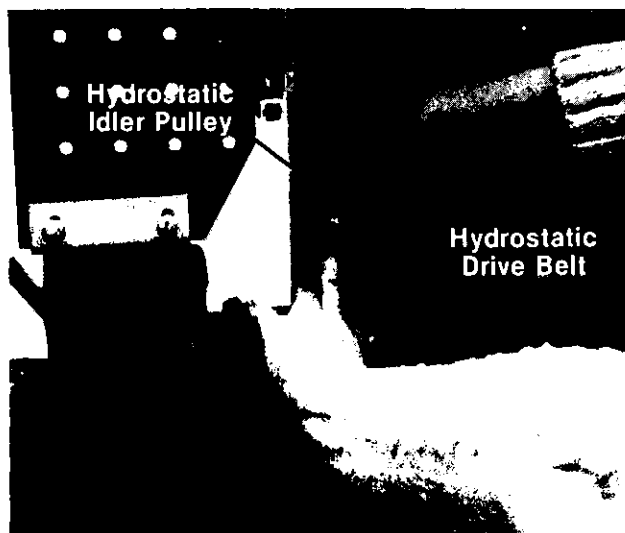

FIGURE 28.
4. Slip the belt off the intermediate drive pulley and hydrostatic pulley. See figure 28.